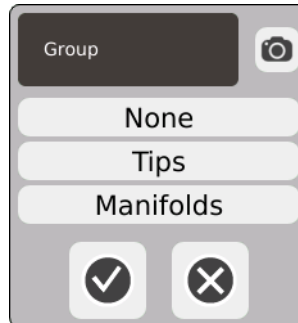

Figure 8-5 Group Selection Dialog
3. Select a group name from the list of groups in the Group selection dialog that shows (refer to Figure 8-5).
3. Select **None** at the top of groups in the Group selection dialog that shows (refer to Figure 8-5).